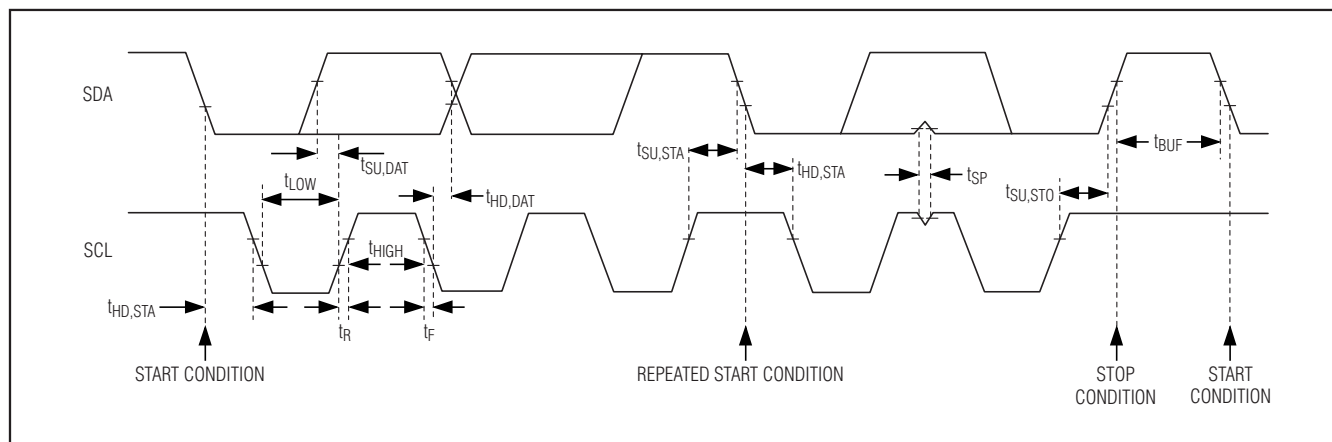

Figure 14. 2-Wire Interface Timing Diagram
The MAX9880A features an I²C/SMBus™-compatible, 2-wire serial interface consisting of a serial-data line (SDA) and a serial-clock line (SCL). SDA and SCL facilitate communication between the MAX9880A and the master at clock rates up to 400kHz. Figure 14 shows the 2-wire interface timing diagram. The master generates SCL and initiates data transfer on the bus. The master device writes data to the MAX9880A by transmitting the proper slave address followed by the register address and then the data word. Each transmit sequence is framed by a START (S) or repeated START (Sr) condition and a STOP (P) condition. Each word transmitted to the MAX9880A is 8 bits long and is followed by an acknowledge clock pulse. A master reading data from the MAX9880A transmits the proper slave address followed by a series of nine SCL pulses. The MAX9880A transmits data on SDA in sync with the master-generated SCL pulses. The master acknowledges receipt of each byte of data. Each read